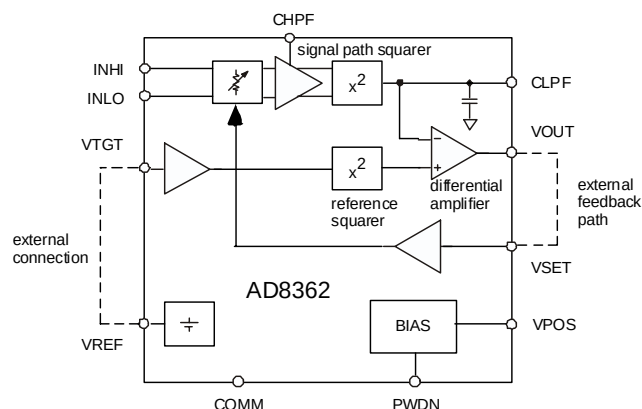

Figure X4 Simplified Block Diagram in Measurement Mode
Figure X4 shows the AD8362 as it could be configured for measurement mode operation. The AD8362 compares an amplified, squared, averaged version of the input signal to a target voltage which has been applied to an identical squaring cell. These voltages are applied to a differential amplifier, the output of which is fed back in Measurement Mode to the gain control of the input variable attenuator. This forces the output of the signal-path squaring cell to be equal to the output of the reference squaring cell. In this mode, the output voltage of the differential amplifier is a linear-in-dB representation of the input signal rms voltage.
R17 forms a voltage divider with the input resistance of VSET, as shown is Figure X4. The formula for R17, in terms of the desired slope (NS), original slope (OS) and input resistance of VSET (RIN) is